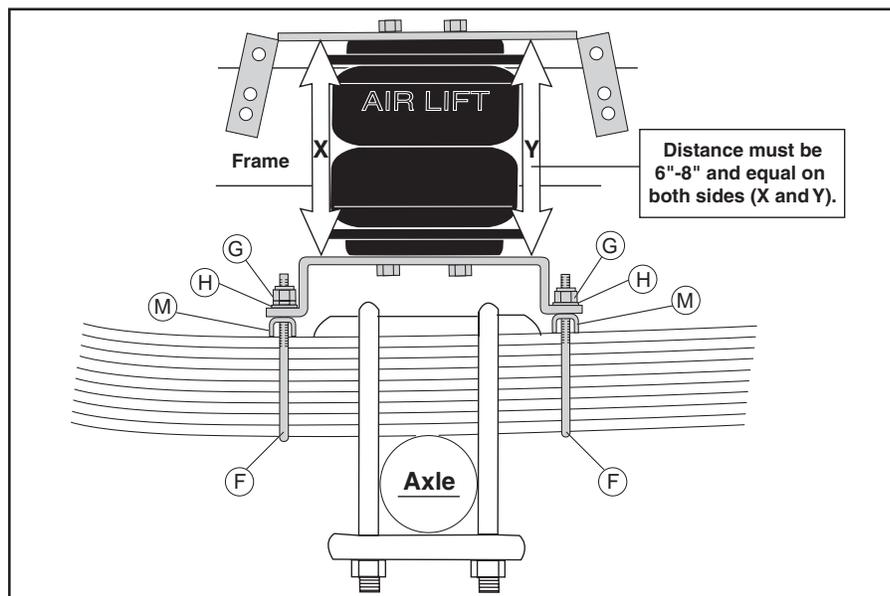

Figure 4
1. Set the assembly over the center spring retainer. Install two spacers (M) between the lower bracket and the spring (Cover Illustration).
2. Bolt the lower bracket (C) to the spring using two U-bolts (F), four flat washers (H) and four nyloc nuts (G) (Figure 4). Torque to 16 ft.lbs.
3. Attach a hex washer head frame bolt (K), oversize washer (J) and nyloc nut (G). Do not overtighten. Adjust both sides, X and Y, so that they are the same (Figure 4).